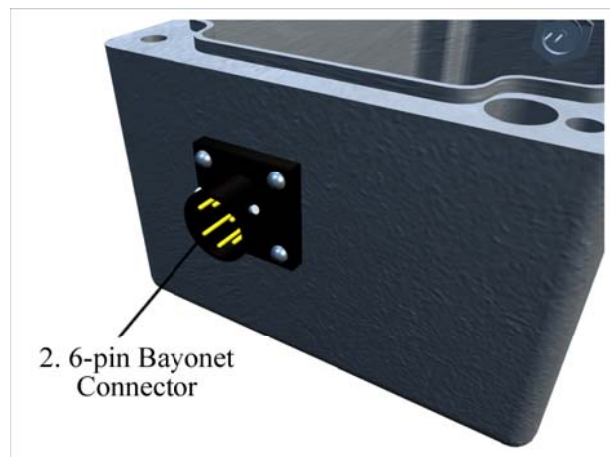

Figure 2-2: 6-pin Connector
2. A 6-pin circular male bayonet connector (Figure 2-2) is used to attach the instrumentation cable to the AWP-24. The instrumentation cable carries power to the electronics and carries the high-level output signal from the electronics to a remote data acquisition system or data recording device. The pin-out information for the connector and the instrumentation cable is shown in Table 2-1 below.